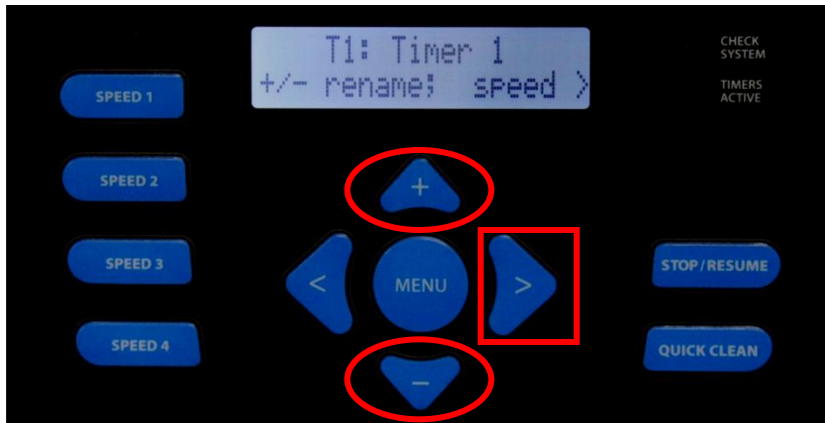

Fig 54
- This screen allows you to rename Timer 1 to match a selection including; Cleaner, Water Feature, Clean, etc by pressing the  &  button (fig 54). Press the  button to continue.